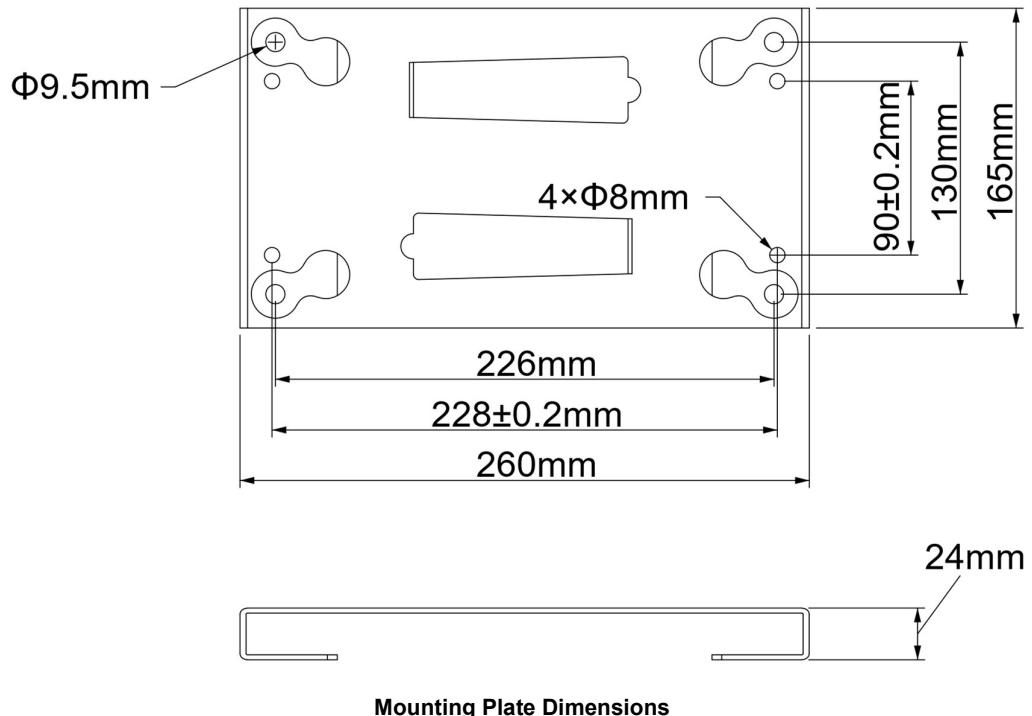

Figure 8
- Pre embed the anchor bolts as per  $\Phi 10$  holes in Figure 8 before concreting, after concrete hardening, place the mounting plate, fit and tighten anchor bolts.(as per figure 11).